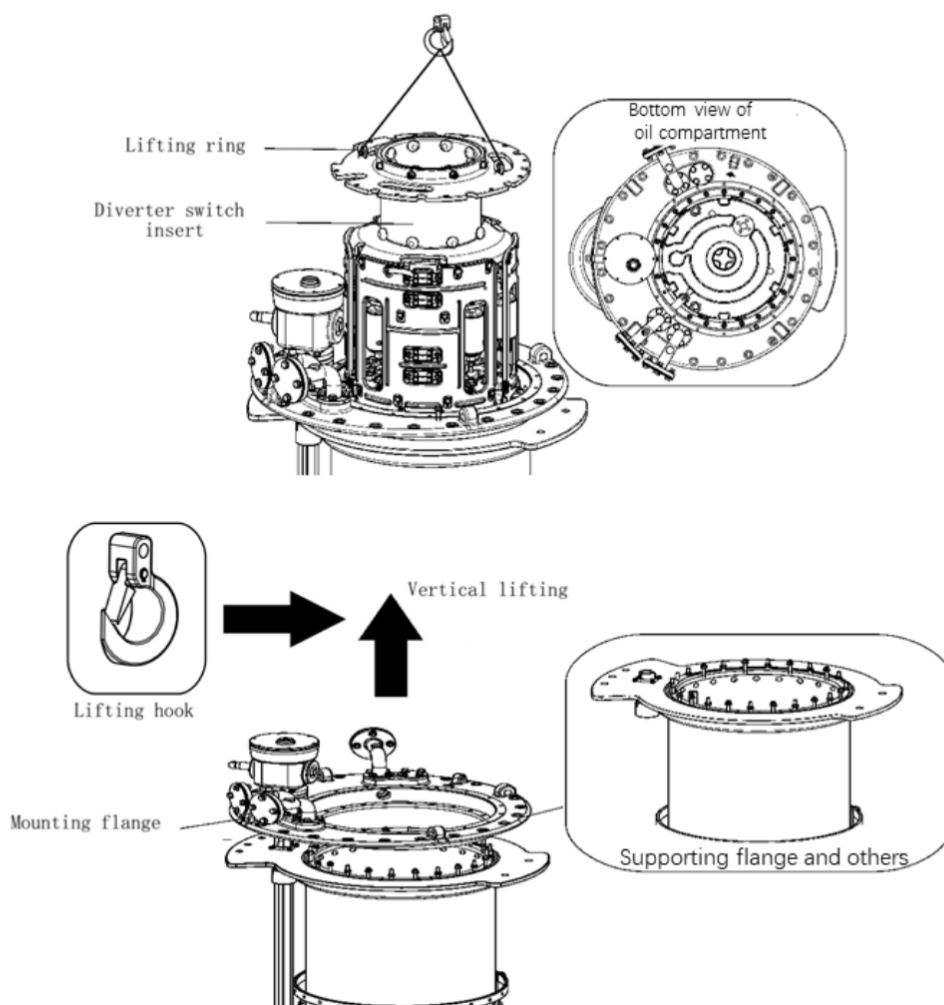

Figure 4.2.4
4.2.1.5 Carefully lift the diverter switch insert vertically from the oil compartment (Figure 4.2.4).
Remove the remaining fixing bolts on the mounting flange (13 pieces of M8 with butterfly washers and by 13mm spanner) and lift the on-load tap-changer mounting flange from the supporting flange (see Figure 4.2.4).